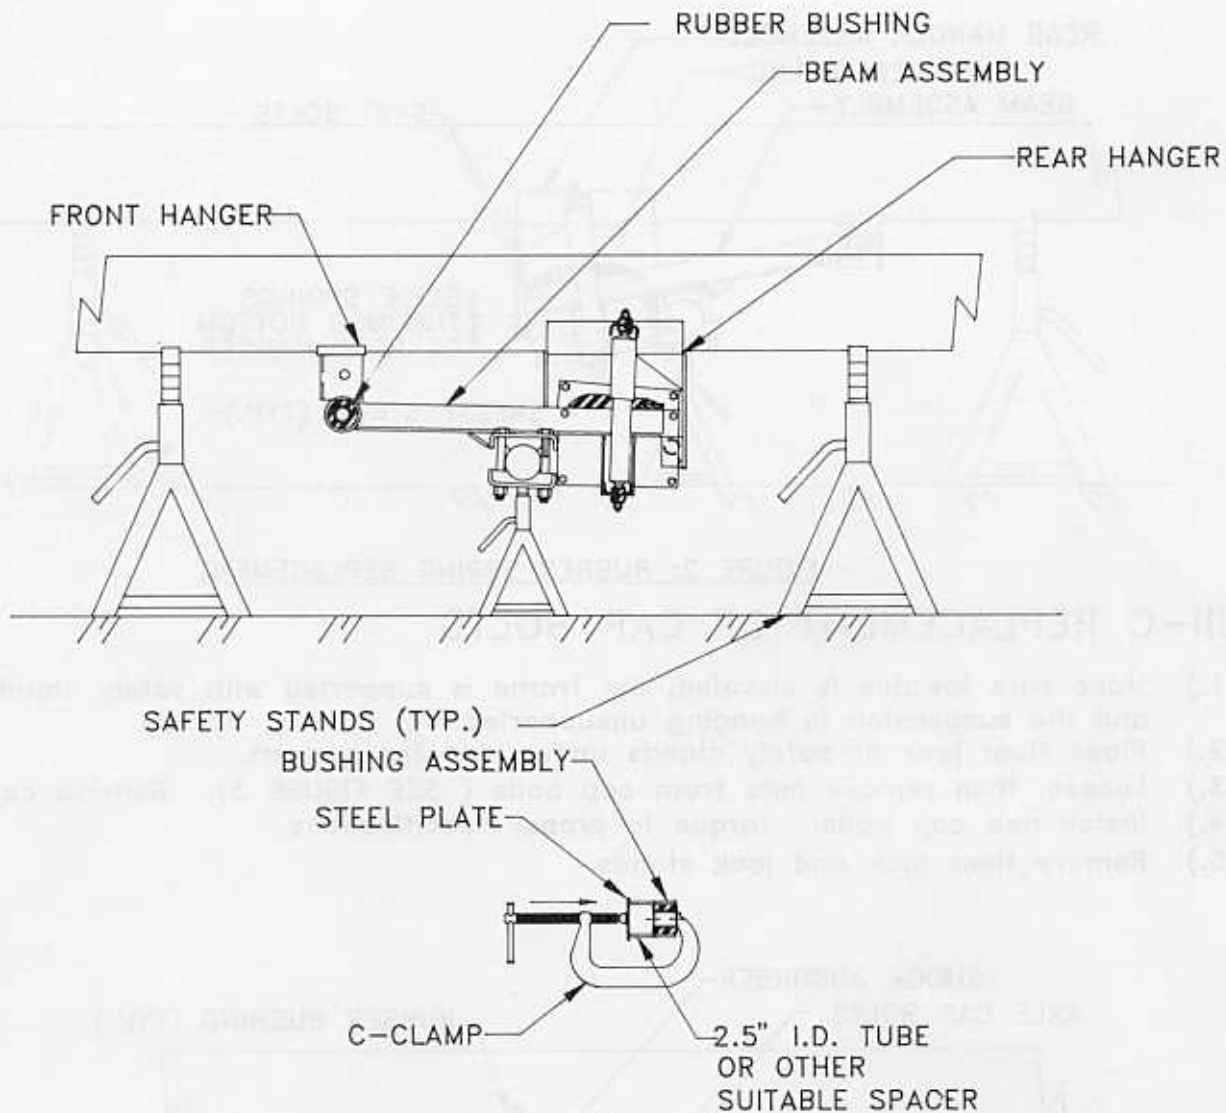

FIGURE 1: BUSHING REPLACEMENT INSTRUCTIONS
- 5.) Rotate beam assembly (See Figure 1) to reveal rubber bushing.
- 6.) Remove rubber bushing from end of beam. Note, Figure 1 depicts one possible process to remove the bushing from the beam using a c-clamp and suitable spacer.